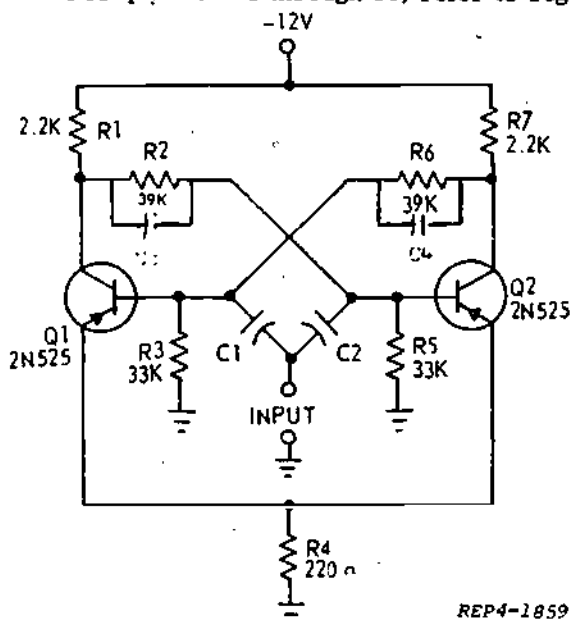

Figure 10
For questions 1 through 13, refer to Figure 10 and Chart 4 as necessary.
1. The Figure 10 schematic diagram is correctly identified as a/an _____
2. Given Chart 4 as the waveshapes for the Figure 10 circuit with waveshape "A" labeled as V_{BQ1} , label the remaining waveshapes.
- 5. Given: The PRT of the input trigger to the Figure 10 circuit is 500 microseconds. The PRF of the output is _____ kHz.